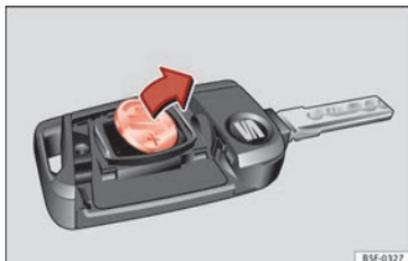

Fig. 94 Vehicle key: removing the battery
- Extract the battery from the compartment using a suitable thin object » **Fig. 94**.
- Place the new battery in the compartment as shown » **Fig. 94**, pressing in the opposite direction to that shown by the arrow » **ⓘ**.